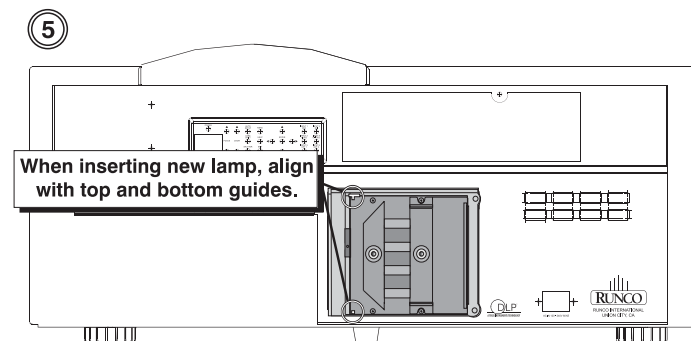

Figure 5-4. Installing A New Lamp
5. Align the new lamp with the top and bottom guides on the left side of the lamp compartment; see Figure 5-4. Slide the lamp all the way in. A slightly harder push may be required right at the end to make sure it is fully seated into the terminal block. NOTE: The projector will not power up again if the lamp is not fully connected to the terminal block.